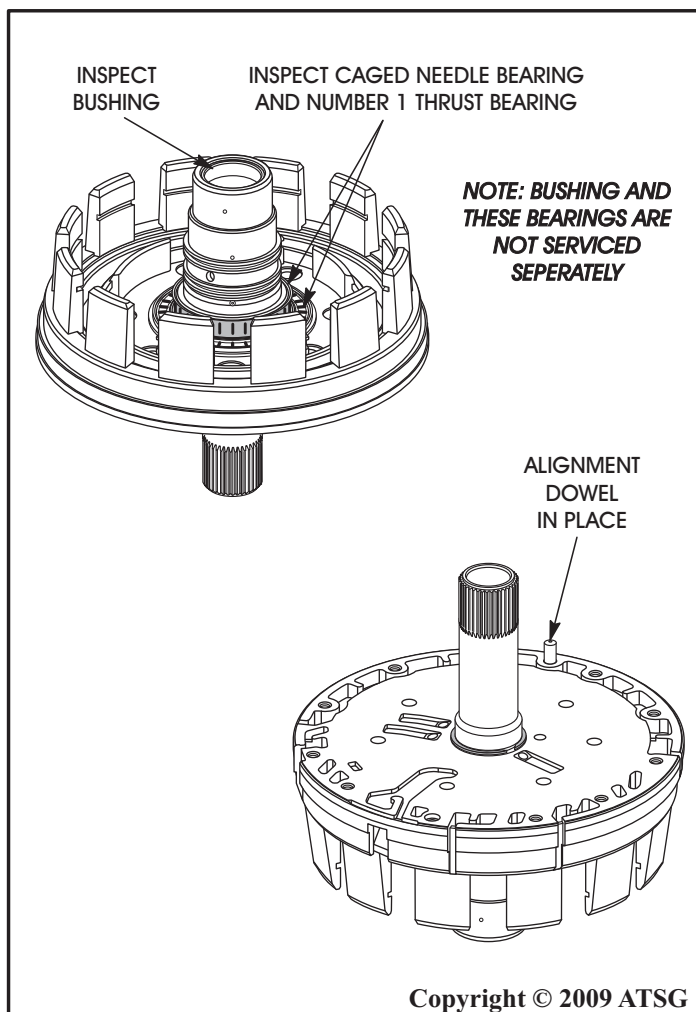

Figure 71
24. Ensure that the alignment dowel is in place in the B-1 clutch housing, as shown in Figure 71.